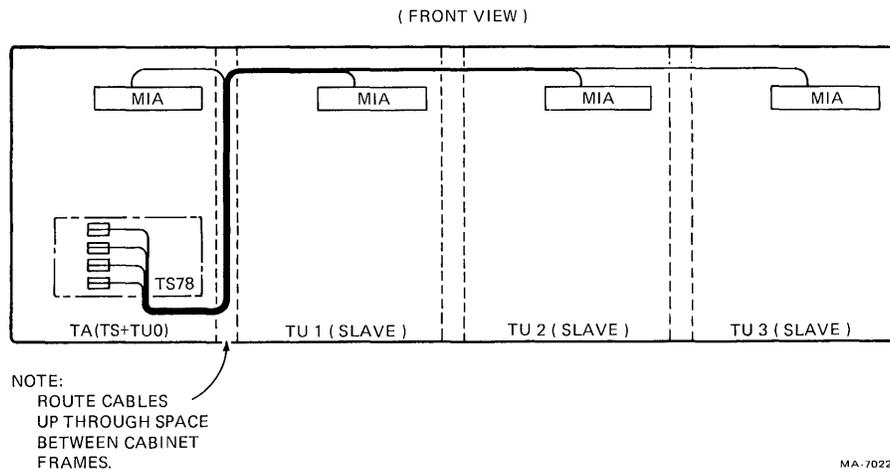

Figure 2-16 TU Bus Cable Routing for a Multiple Transport Configuration
Before you perform the next step, lay the TU bus cables for all the slave transports loosely between the TA78 and first slave (Figure 2-16). There are two 4.6-m (15-ft) cables (PN BC06R-15) for each slave. Place the cables with the red stripe facing the rear of the cabinet. Do not tape the cables together. Each cable must be free to replace in case of failure.
7. Install the TU bus cables between the TS78 in the TA78 cabinet, and the slave transport(s). Figure 2-16 shows the cable positions in relation to the cabinet frames. The TU bus for the transport in the TA78 is prewired at the factory. Figure 2-17 shows the electrical connection for each TU bus cable. Each transport has a unique set of cables. The jacks to which they connect (on the TS78) determine the cable number and part of the unit number. For installation, start at the TS78 end of the cable and work toward the MIA end.
11. Repeat this procedure for each set of cables going to each slave transport. Lay the cables for each succeeding transport over the preceding transport's MIA card (Figure 2-16).